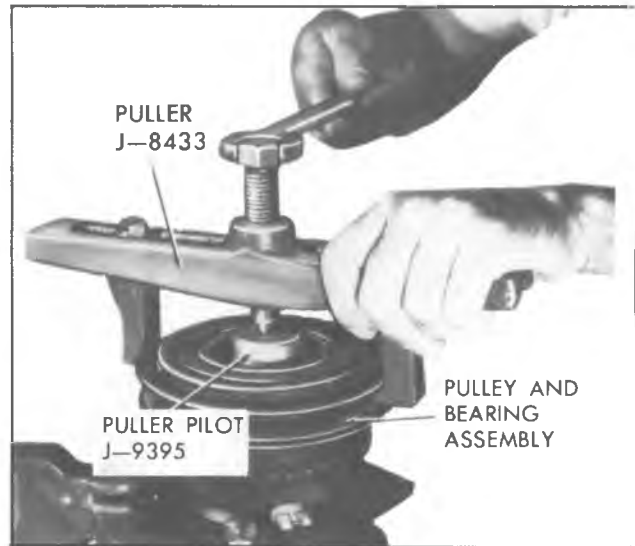
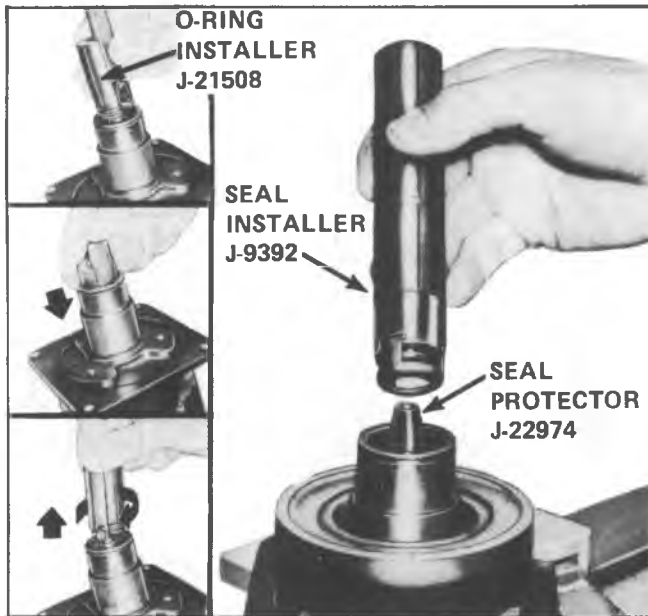
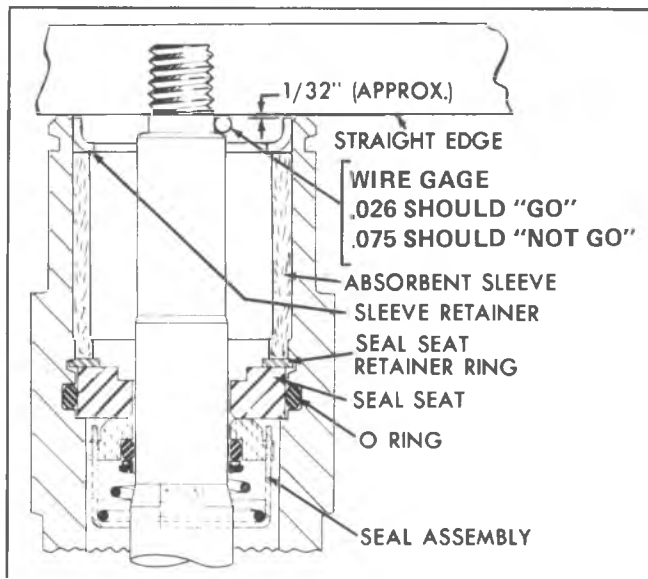

Fig. 11--Removing Pulley and Bearing Assembly
Fig. 20--Replacing Seal and O-Ring
Fig. 21--Compressor Shaft and Seal
5. Remove Pulley and Bearing Assembly using Pulley Puller J-8433 (Fig. 11).
5. With Seal Protector J-22974 still over the end of the shaft, engage the tabs on the seal assembly with the tangs on Seal Installer J-9392 by twisting the tool **clockwise, while pressing the tool down** . Then lift the seal assembly out (see Fig. 20).
1. Coat new seal seat O-ring with clean 525 viscosity refrigerant oil and install in compressor neck, **making certain it is installed in bottom groove** (Fig. 20 and Fig. 21). Top groove is for retainer ring. Use O-Ring Installer J-21508.
2. Coat the O-ring and seal face of the new seal assembly with clean 525 viscosity refrigerant oil. Carefully mount the seal assembly to Seal Installer J-9392 by engaging the tabs of the seal with the tangs of the tool (Fig. 20).
3. Place Seal Protector J-22974 (Fig. 20) over end of shaft and **carefully slide the new seal assembly onto the shaft. Gently twist the tool CLOCK-WISE, while pushing the seal assembly down the shaft** until the seal assembly engages the flats on the shaft and is seated in place. Disengage the tool by pressing downward and twisting tool counterclockwise.
9. Position the new metal sleeve retainer so that its flange face will be against the front end of the sleeve. Pulley Puller Pilot J-9395 (See Fig. 11) may be used to install the retainer. Press and tap with a mallet, setting the retainer and sleeve into place (retainer should be recessed approximately 1/32" from the face of the compressor neck). See Fig. 21.
shoulder on the shaft as shown in Fig. 21. To measure this distance, use a wire gage (**the clearance should be between .026" and .075"**). If the shaft has been pushed back in the axial plate (measurement greater than .075"), disassemble the compressor and replace the shaft and axial plate assembly rear thrust races and thrust bearing.